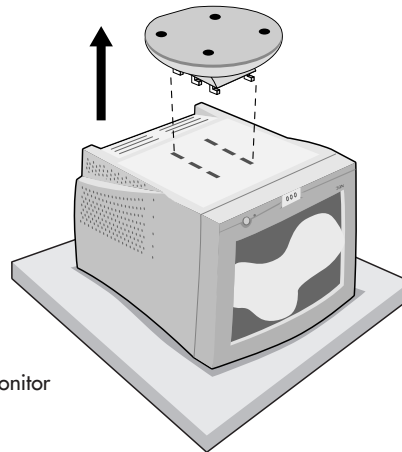

Figure TS.6
3. Pull out the tilt/swivel base from the six holes on the bottom of the monitor (**Figure TS.6**).